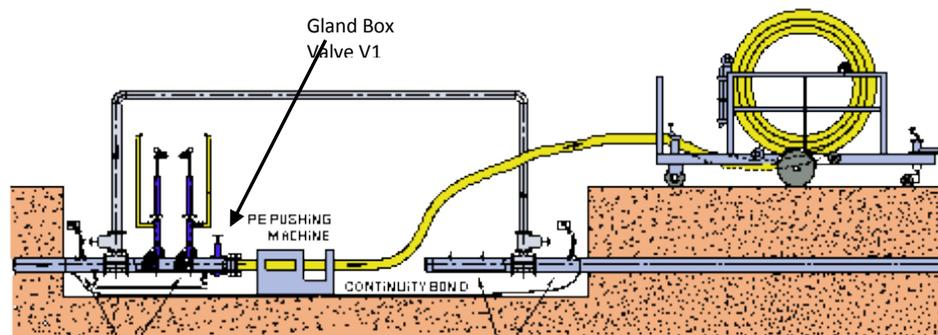

Figure 10- Insertion of PE Main into Live Main
1. Insert live head into the gland until it meets Valve V1, plastic seal see Figure 10.